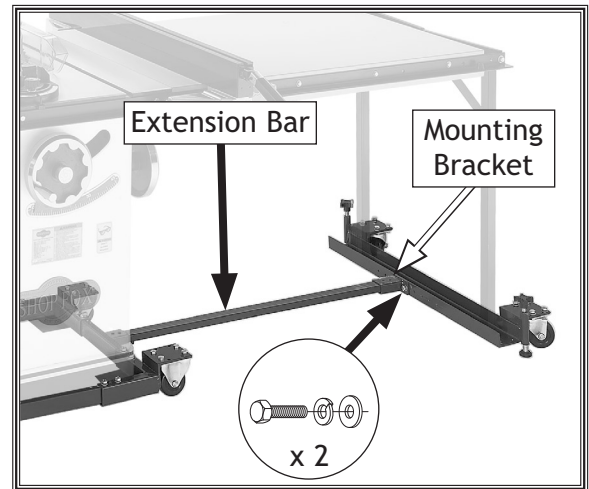

Figure 6. Extension bar attached.
11. Lower the extension bar and align the bracket with the threaded holes on the side of the support channel, as shown in Figure 6.
12. Secure the mounting bracket to the support channel using (2) M8-1.25 x 16 hex bolts, 8mm lock washers, and 8mm flat washers (see Figure 6).